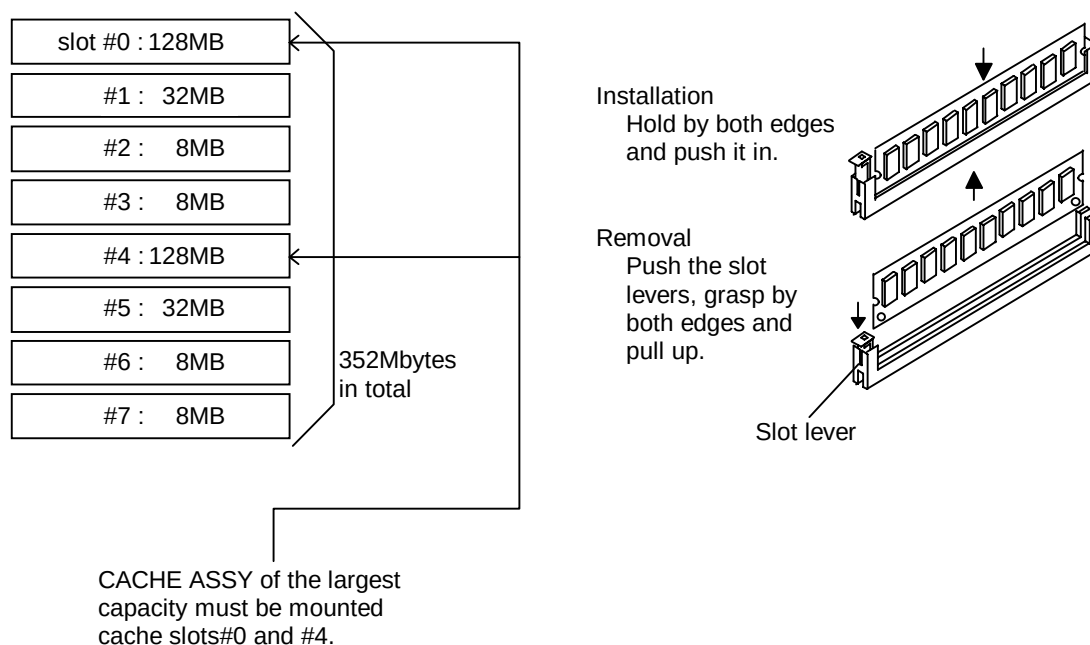

Figure 3.2.6 Installing CACHE ASSY
(6) Installing CACHE ASSY (See Figure 3.2.6 and Figure 3.2.7.)